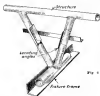

Fig. 1
1. Fixtures for structural tubular frames assembled with a close tolerance of any gap or misalignment in allowance is overall dimensions. For structures built in one plane such as fuselage sides and plane bulkheads, a combination of rivets composed of common structural steel angles joined by welding and braced by semi-circular steel plate ribbed as shown in Fig. 1, is used. The tubes of the structure which is being welded rest on the angles which are cut away at the point of welding. This gives a better welding position than if the tubes were resting on "V" blocks. For structures which are built up in two or three planes, such as engine nacelles,